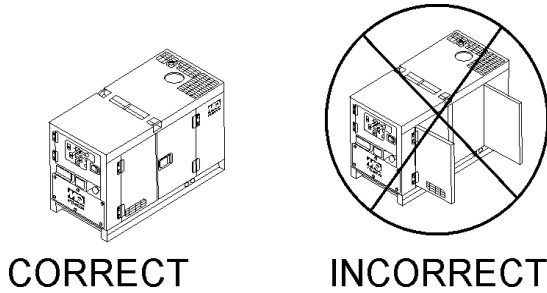

Figure 22. Engine Enclosure Doors
4. Close all engine enclosure doors (Figure 22).